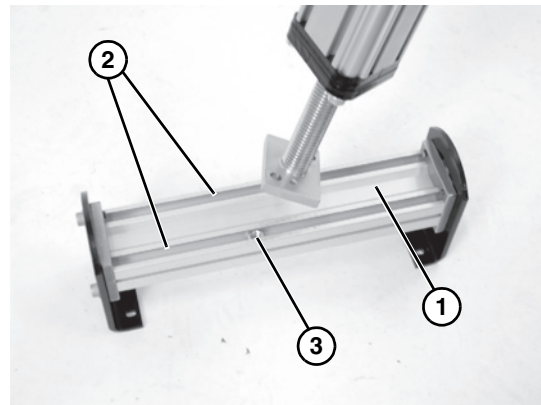

**Figure 13**
- Align the foot bracket edge (**Figure 13, item 1**) with the bottom edge of the trileg post (**Figure 13, item 2**).
<p>Failure to secure screws (Figure 13, item 3) may cause conveyor sections to drop down, causing severe injury.</p> <p>TIGHTEN ALL SCREWS (Figure 13, item 3) AFTER ADJUSTMENT.</p>
- Tighten socket screws (**Figure 13, item 3**) to 100 in-lb (11 N-m)